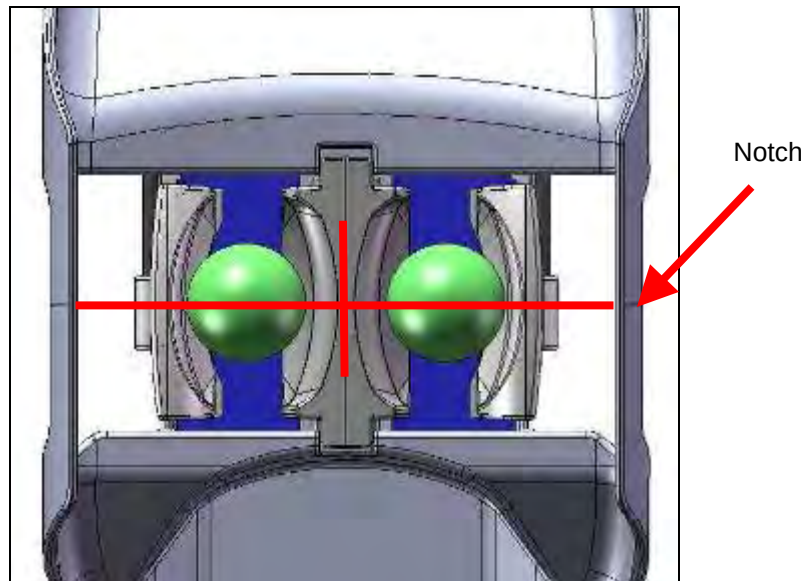

Figure 61 : 16 Channel - Landmark Phantoms
5. Landmark using the notch on the edge of the patient support as shown in Figure 61.